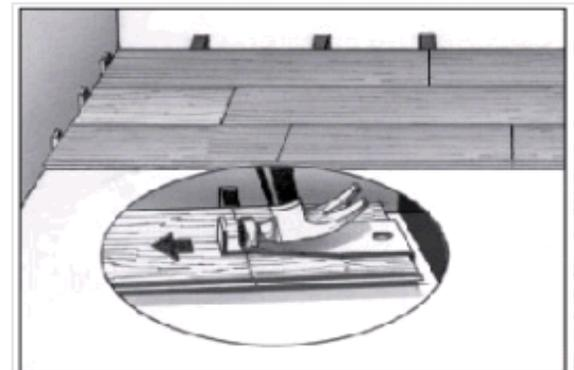

Fig. 15
15. Use a pull bar when necessary to ensure joints are tight (Fig. 15).